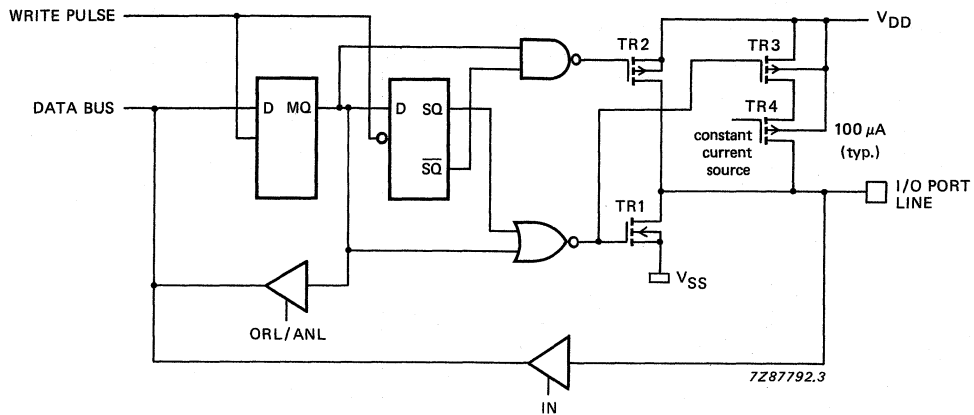

Fig.10 Standard output with switched pull-up current source.
Fig.10 shows the quasi-bidirectional I/O interface with push-pull output and switched pull-up current source.
- Option 1 **STANDARD PORT**; quasi-bidirectional I/O with switched pull-up current source of  $100\ \mu\text{A}$  (typ.) and p-channel booster transistor TR2 (1.5 mA). TR2 is only active during 1 clock cycle (see Fig.10).